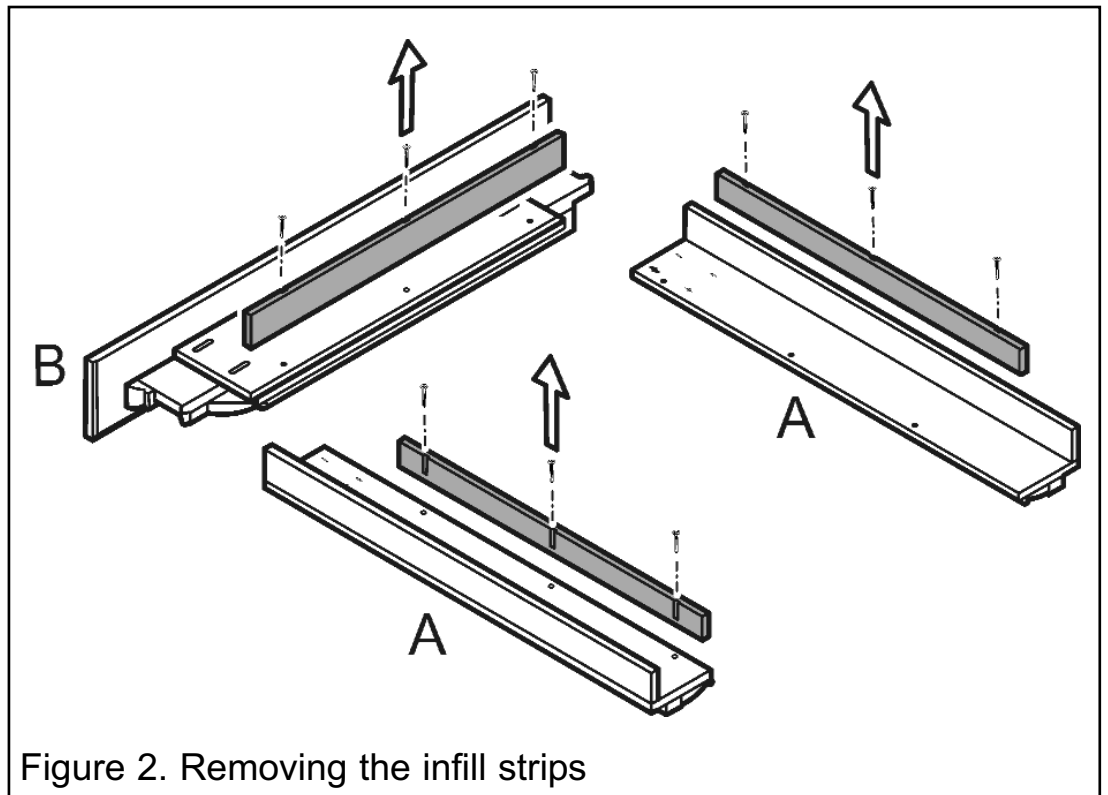

Figure 2. Removing the infill strips
- The legs and top are supplied fitted with infill strips that are not required on electric suites. Unscrew and remove these as in figure 2.